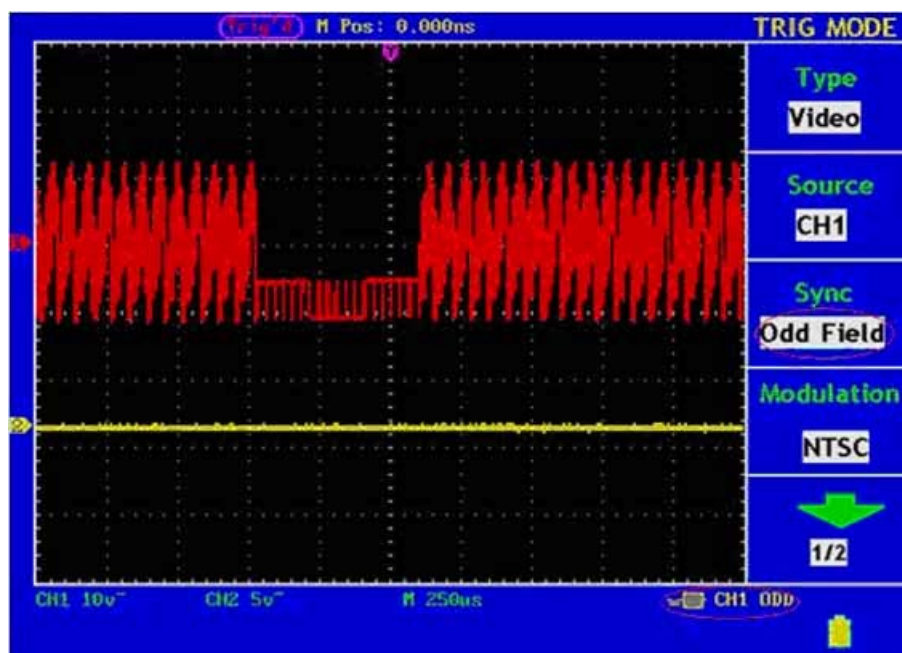

Fig. 65 Wave Form Obtained from the Odd Field Trigger
5. Adjust the **VOLTS/DIV**, **VERTICAL POSITION** and **SEC/DIV** knobs to obtain a proper wave form display (see Fig. 65).